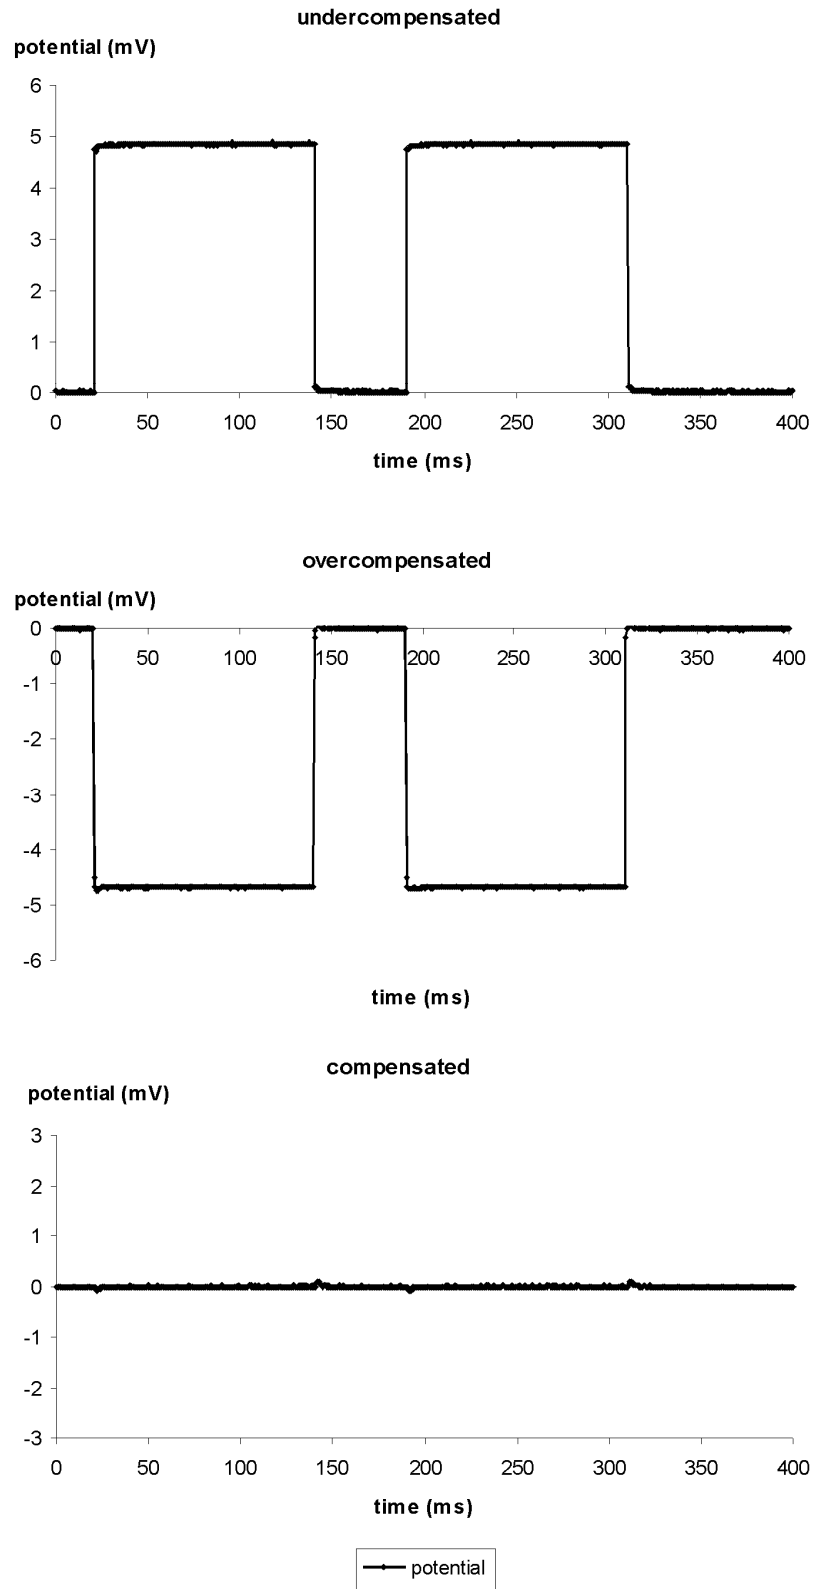

Figure 10: Tuning of the BRIDGE BALANCE using 100 MΩ resistor
With the cell model connected or the electrode in the bath the BRIDGE BALANCE control is turned on clockwise until there is no artifact on the POTENTIAL OUTPUT (see Figure 10).
- Watch the POTENTIAL OUTPUT at the oscilloscope and adjust the BRIDGE BALANCE as shown in Figure 10 using the BRIDGE BALANCE potentiometer (#22, Figure 1). After adjustment you should see a straight voltage trace without artifacts caused by the potential drop at R_{EL} .
Figure 10 illustrates the BRIDGE BALANCE procedure using a $100 M\Omega$ resistor that represents the electrode. The current stimuli were generated using the gated stimulus unit gated by two TTL pulses. The amplitude was set to 0.5 nA. In the upper diagram the bridge is slightly undercompensated and in the diagram in the middle it is slightly overcompensated. The lower diagram shows a well balanced bridge (compensated).